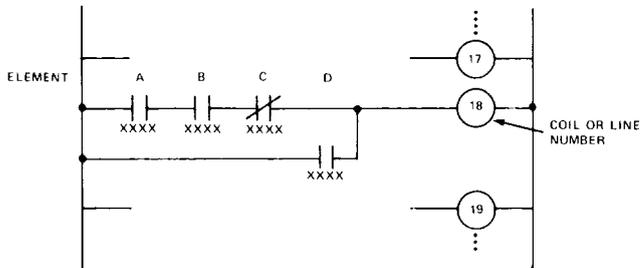

Figure 24. Typical MODICON Ladder Line
It should be pointed out that the word "element" may not only specify a single relay contact type (e.g., a series or parallel relay contact), but may also mean entering a number — either for timing, counting, or another purpose. Any line can be converted to any valid function provided by the executive program installed. Figure 24 shows the typical MODICON Ladder Line.
1. Using the thumbwheel switches under LINE NUMBER, enter the number of the line, shown within the relay coil symbol of Figure 24 (which will also represent the output of the line).